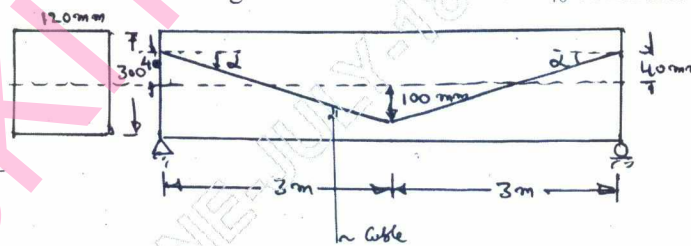

Fig.Q4(b)
b. The beam of uniform section is prestressed with a bent cable as shown below Fig.Q4(b), in which the initial prestress is 300 kN. Taking the loss ratio as 80%. Determine